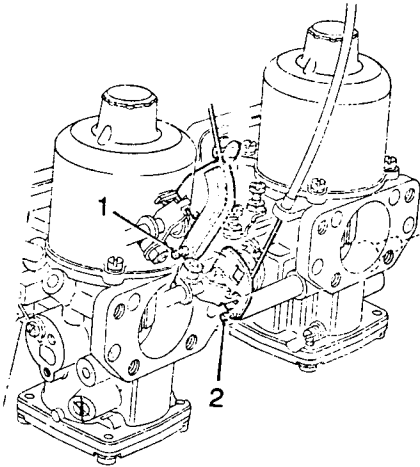

Fig B4.62
- (4) Refer to Fig B4.62. Loosen the fixing (1) and withdraw the accelerator control cable.
- (5) Loosen the fixing (2) and withdraw the mixture (choke) control cable.